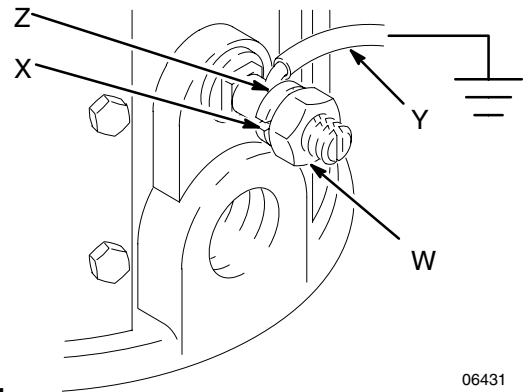

Fig. 1
- **Pump:** Use a ground wire and clamp as shown in Fig. 1. Loosen the grounding lug locknut (W) and washer (X). Insert one end of a 12 ga (1.5 mm²) minimum ground wire (Y) into the slot in lug (Z) and tighten the locknut securely. Connect the other end of the wire to a true earth ground. Order part number 237569 Grounding Clamp and Wire.